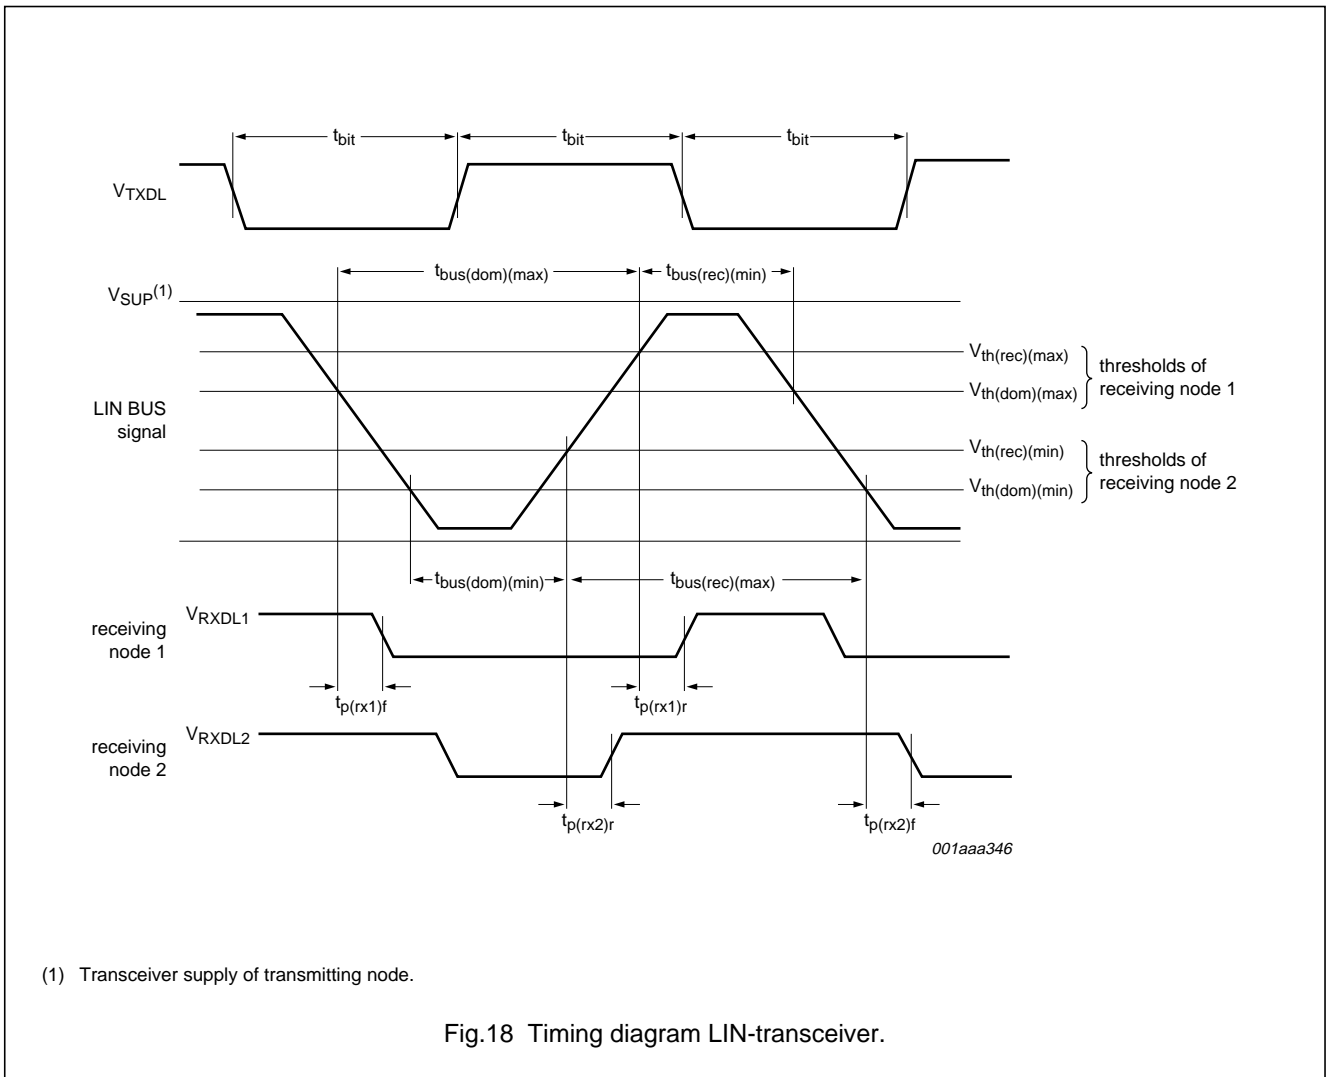

Fig.18 Timing diagram LIN-transceiver.
- tbit = selected bit time, depends on LSC bits 50 or 96 µs (20 or 10.4 kbit/s respectively); bus load conditions (Cbus/Rbus): 1 nF/1 kΩ; 6.8 nF/660 Ω; 10 nF/500 Ω; see Fig.18.